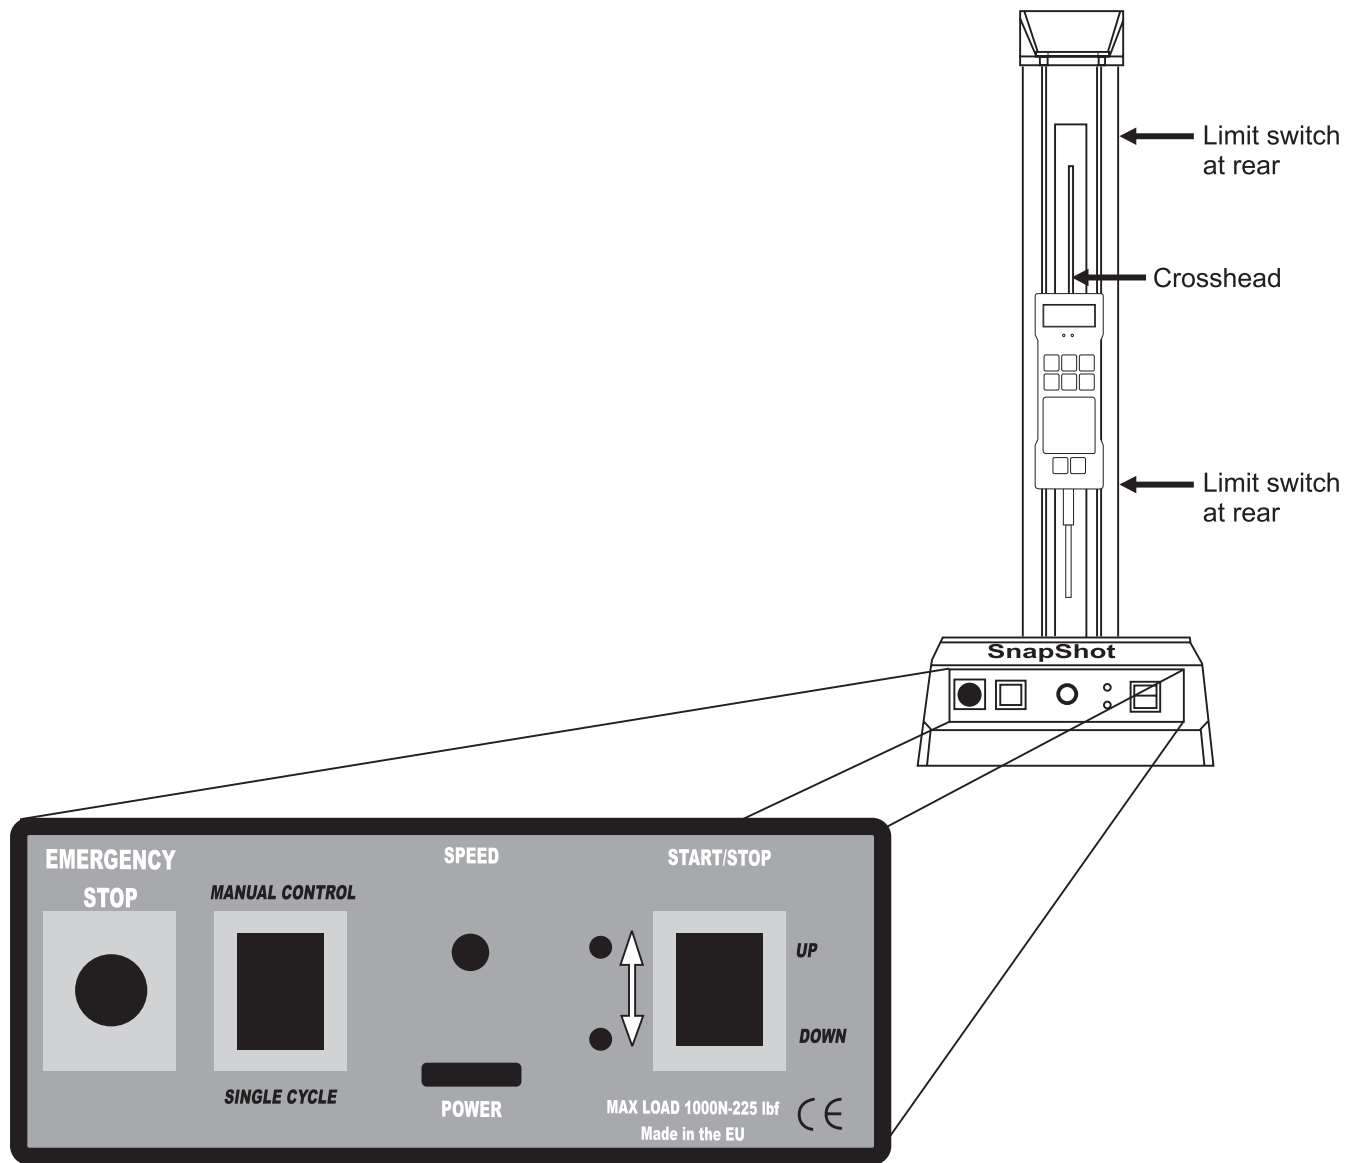

Figure 1
1. Set the limit switches (see Figure 1) by turning each thumbscrew located on the rear of the stand counterclockwise and moving them approximately two inches either side of the moving crosshead and retighten. See Figure 1.